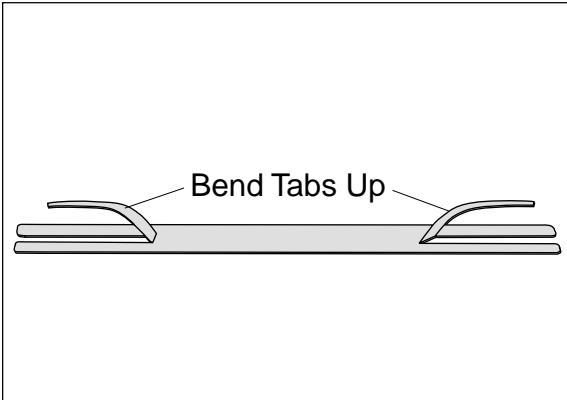

Figure 13
1. Bend tabs to provide a $\frac{1}{2}$ " dead air space between exhaust pipe and heat shield (Figure 13).